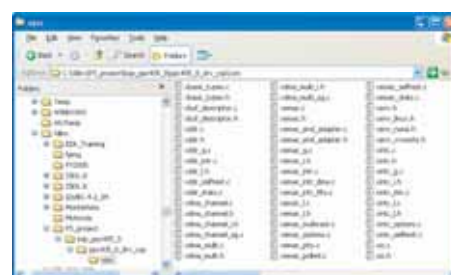

Figure 4 – Generated BSP directory structure
3. Generate the Tornado BSP by selecting the Tools > Generate Libraries and BSP menu option. The resulting BSP resembles a traditional Tornado BSP and is located in the Platform Studio project directory under `ppc405_0/bsp_ppc405_0` (see Figure 4).
This minor deviation is due to the dynamic nature of FPGA-based embedded systems. Because an FPGA-based embedded system can be reprogrammed with new or changed IP, the device driver configuration can change, calling for a more dynamic placement of device driver source files. The directory tree for the automatically generated BSP is shown in Figure 4. The Xilinx device drivers are placed in the ppc405_0_drv_csp/xsrc sub-directory of the BSP.